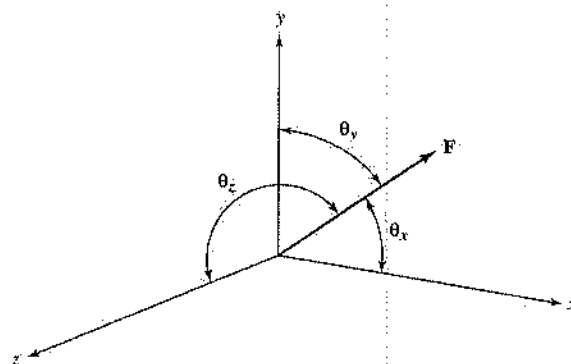

Figure 11.7
Method 1. If the angles between the force (F) and the axes (x , y , z) are known (see Figure 11.7), then